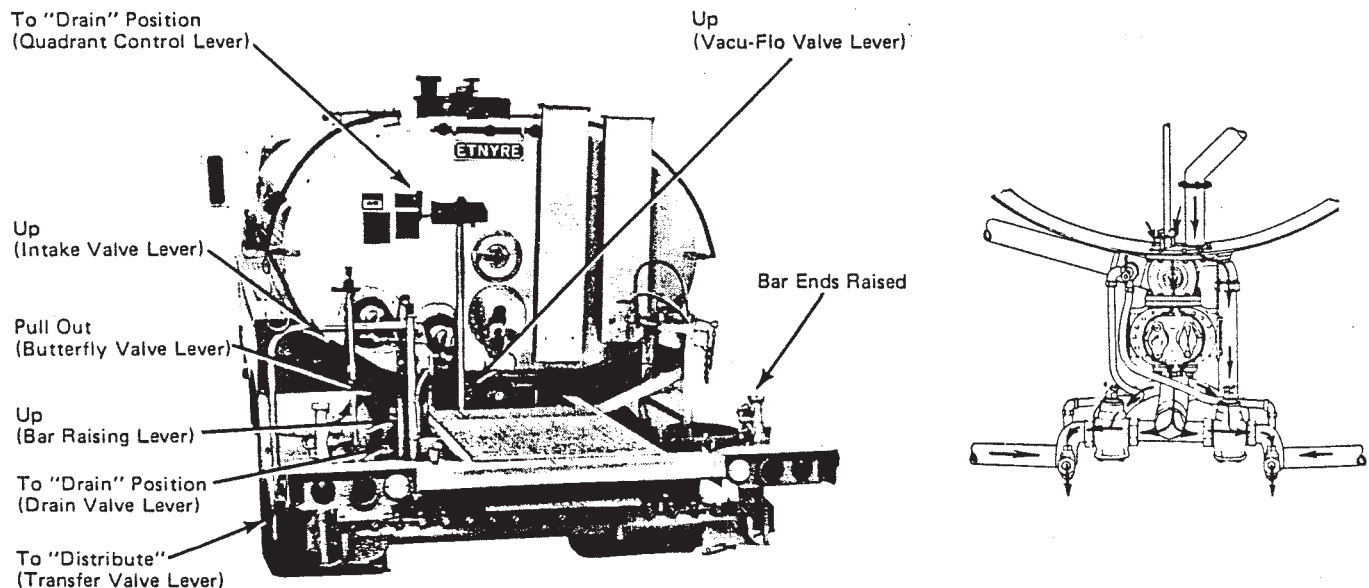

Figure 27. Draining Circulating System and Spray Bar
2. Set the operating valves and levers as shown in Figure 27.